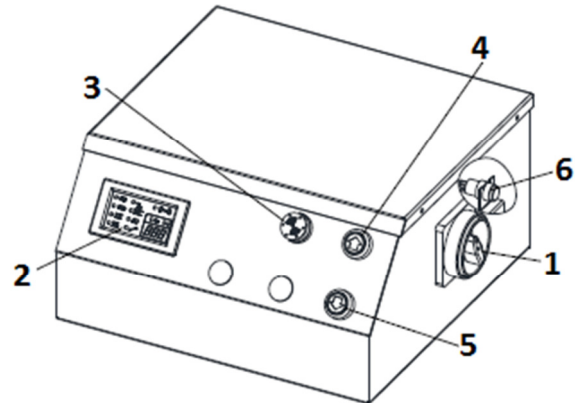

Fig. 8
3. Turn the main power switch (1, fig.8) to I (AAN).
4. Now press the LIFT-button (4, fig.8) to fill the cylinders with oil.
5. Raise the lift by pushing the LIFT-button (4, fig.8) until the platforms are fully raised.
6. Now press the IGNORE-button (6, fig.8) together with the LIFT-button for approximately 10-15 seconds, the lift is raised 70mm extra, this way air can bleed out of the hydraulic system. You can also see airbubbles running through the see-through line.
7. Lower the platforms by pressing the LOWER-button (5,fig.8). The lift lowers to the safety height (400mm), release the button and press it again, during the last lowering a beep sound is made.